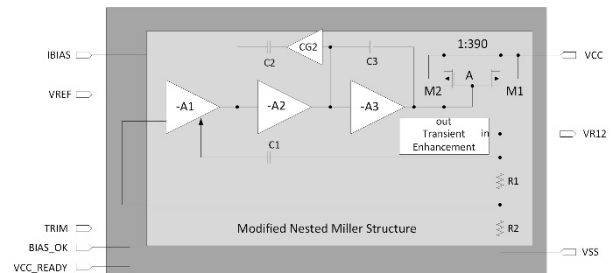
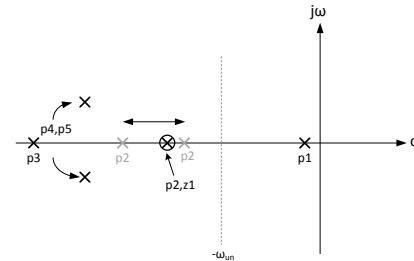

Figure 1: LDO block diagram.
Figure 2: Zero-pole cancellation.
The LDO structure is shown in Figure 1, implemented basing on a modified nested structure with zero-pole cancellation technique (indicated in Figure 2):
- A low impedance node, marked as "A" in Figure 1, is available for adding the "Transient Enhancement" block to improve the transient performance when a large load current step or a large supply voltage step occurs
The stability is achieved with zero-pole cancellation for the specified on-chip capacitor range, as shown in Figure 2. The pole of " p_2 " is located at the LDO output, while the " p_3 " pole is due to the C_{gs} of the output transistors "M1". Depending on the load current and the load capacitor, " p_2 " shifts along the real-axis. The zero of " z_1 " is carefully positioned so that the phase margin >50° is achieved under all conditions.